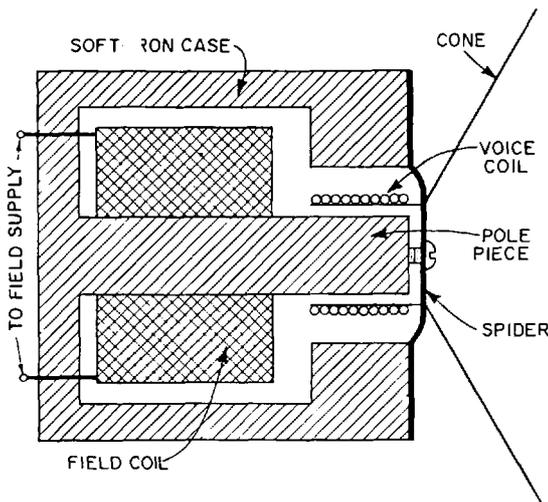

Fig. 22-1. Diagram of an electromagnetic dynamic speaker.
***The Electromagnetic Dynamic Speaker.*** An ingenious device was evolved to overcome this defect. A speaker coil, called a *voice coil*, is wound on a small tube of bakelite. This tube is mounted so that it can slide back and forth over a soft-iron *pole piece*. To this tube, the paper cone is attached. Also attached to this tube, to keep it in place, is a thin springy sheet of bakelite, called a *spider*. (See Figure 22-1.)